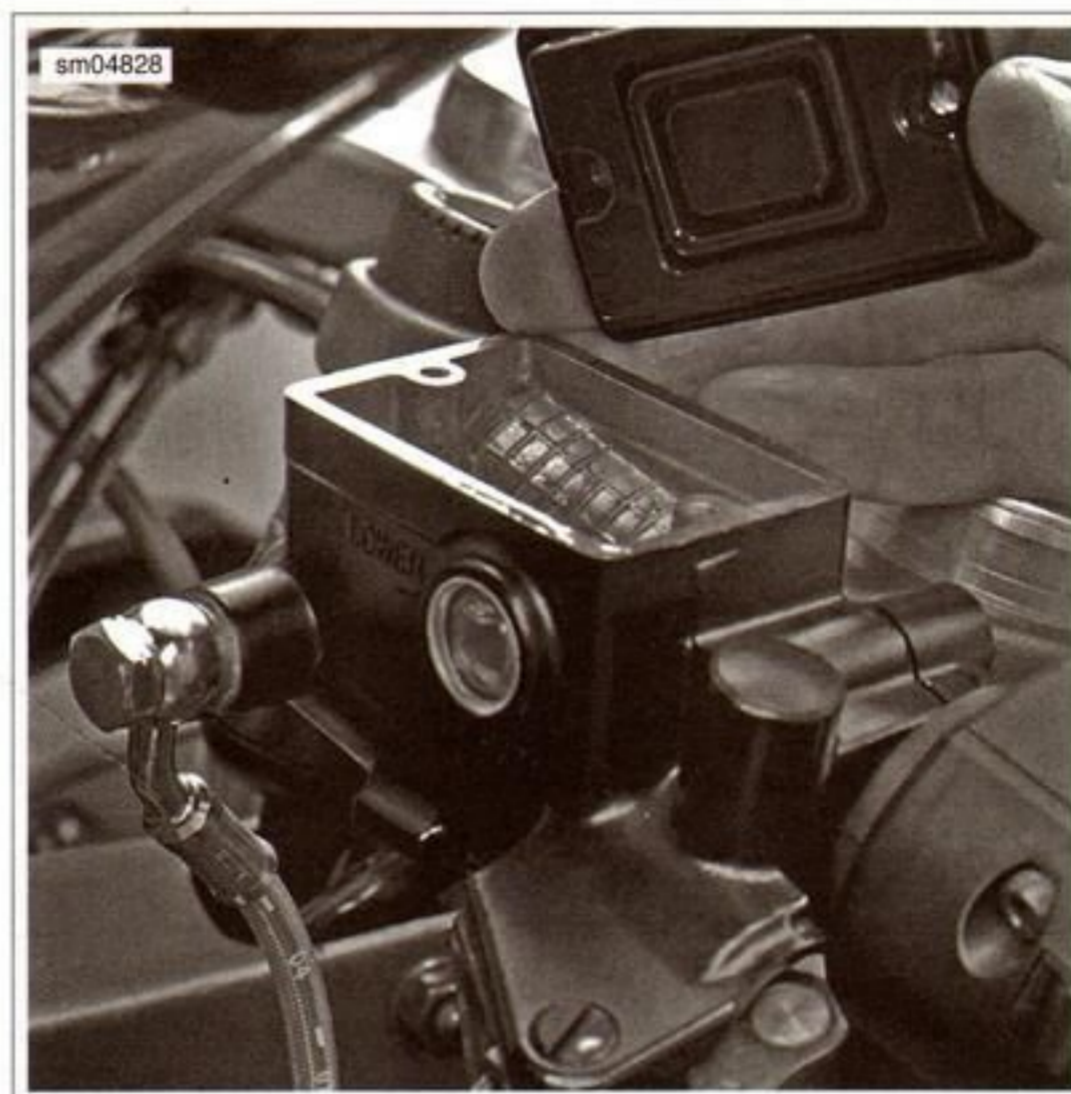

Figure 1-15. Clutch Fluid Reservoir
3. See Figure 1-15. If necessary, add D.O.T. 4 BRAKE FLUID (Part No. 99953-99A) to the reservoir. Initial fluid level should not exceed the top of the sight gauge.